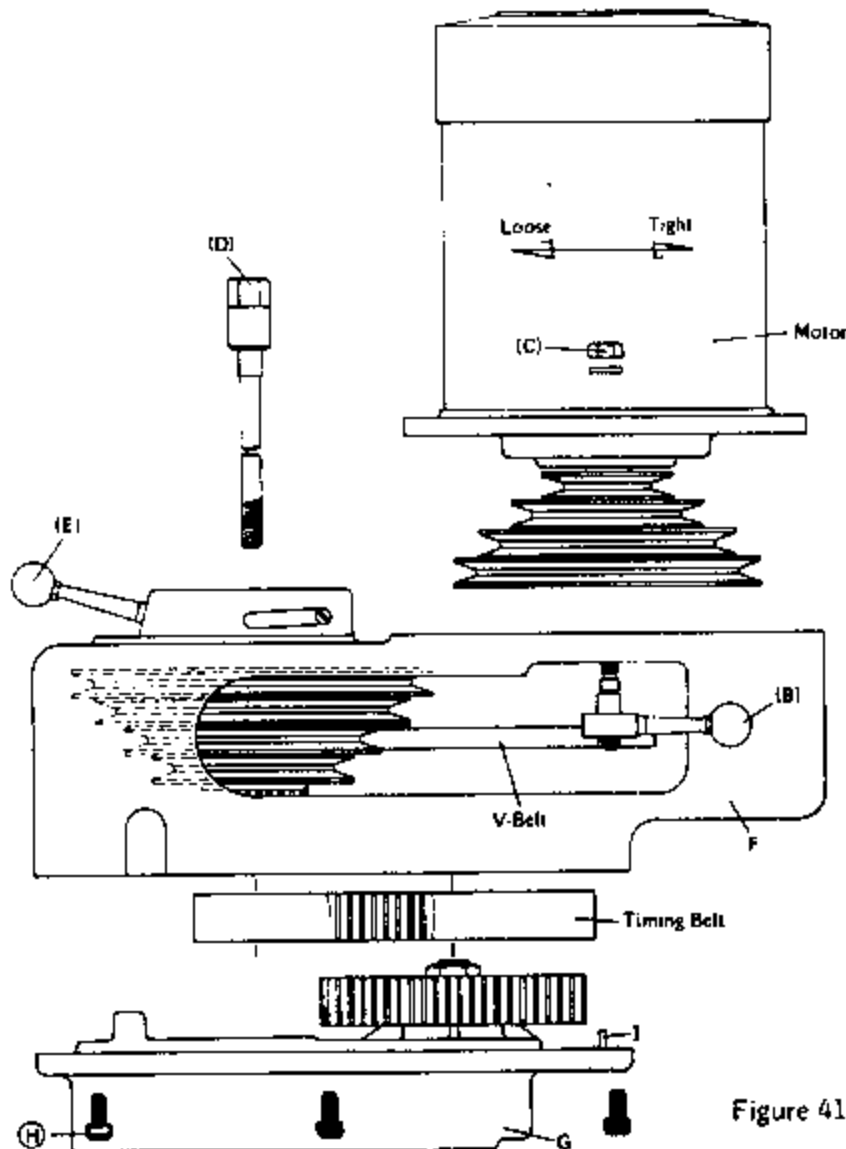

Figure 41
- c. As illustrated in (Figure 41), loosen Adjusting motor handle (B) and move the motor forward to loosen the belt. Turn the V-Belt and let it slip off the belt wheel.
- d. Take off the two hexagonal nuts (C) for motor dismounting.
- e. Take out the drawbar (D) and drop the quill down to the lowest position.
- f. Push the hi-low speed selector (E) to the right front position.
- g. Dismantle the six concave bolts (H) connecting the belt housing (F) and gear housing (G). Strike upward the belt housing lightly and disengage it from the setting pin (I). Then, take out the belt housing. V-Belt and timing belt are therefore replaced.